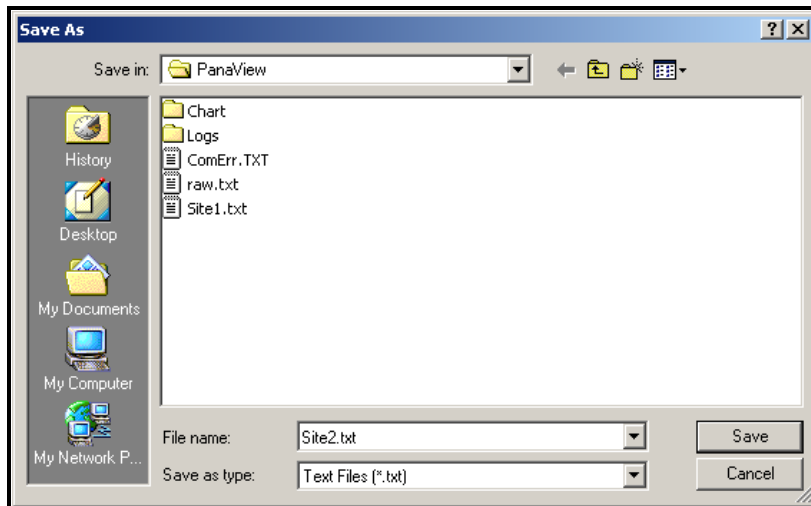

Figure 30: Save As Window
To save the raw signal, click *Save*. A window opens similar to the one shown in Figure 30. Enter the desired name, and click *Save* to save the signal as a text file.
2. Click *Save Site to PC*. A window opens similar to Figure 30 on page 121.
1. Highlight the site in the left pane. (See Figure 30 on page 121.)